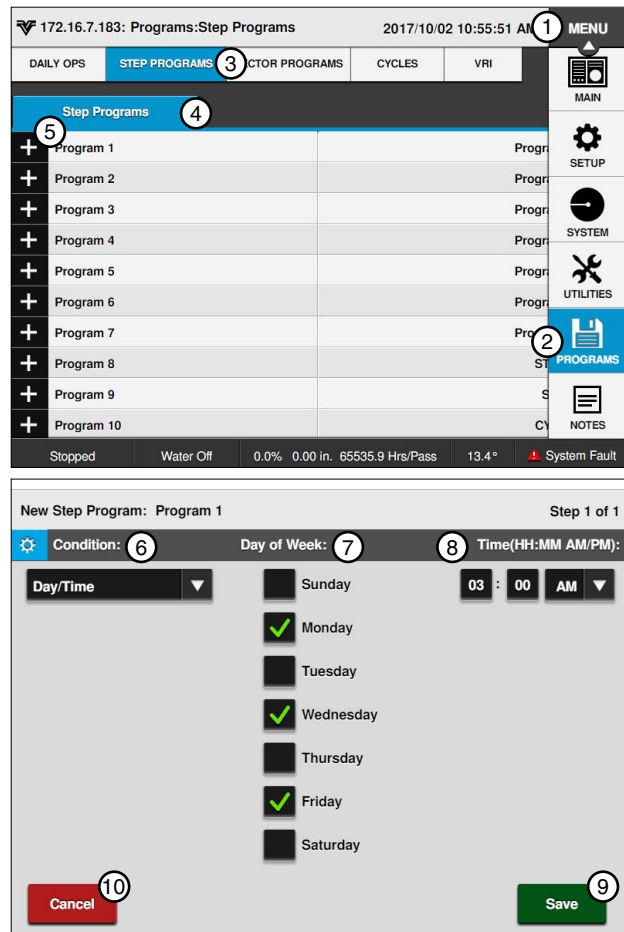

Figure 108-2 1. Menu 2. Programs 3. Step Programs 4. Step Programs 5. New Program 6. Condition 7. Day of Week 8. Time 9. Save 10. Cancel
2. Push the **New Program** button corresponding to the preferred program number as shown in Figure 108-2.
3. Program the day and time for this step. Refer to Figure 108-2.